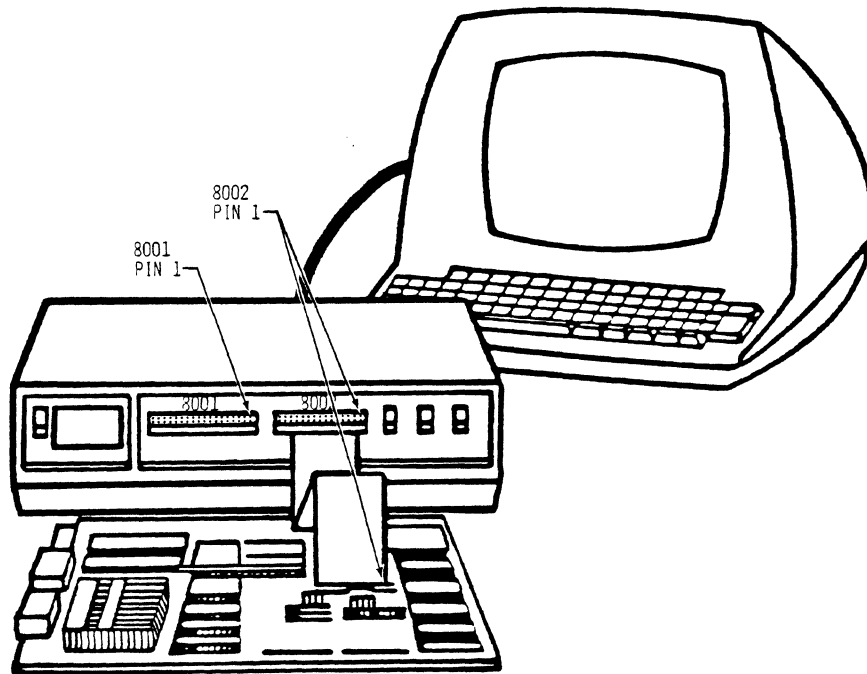

Figure 5-3. Z-SCAN and Z8002 Target System Connections
5. Plug the header into the CPU socket in the target system, making sure that the pin marked "1" on the header is mated with pin 1 of the socket. Figure 5-3 shows the Z-SCAN unit correctly connected to a target system.